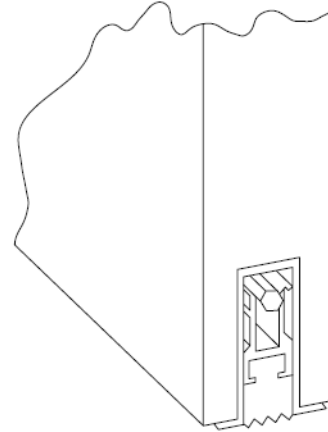

FIGURE 20a
1. Mortise Door Bottoms, Figure 20a, are set within a prepared recess in the bottom of the door. Since it is hidden within the door, the appearance of this is aesthetically pleasing.